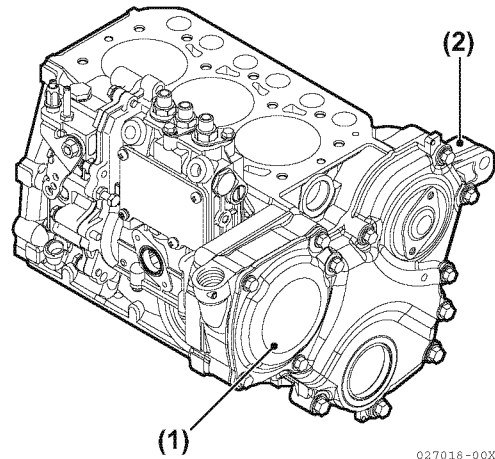

Figure 7-10
13. Remove the fuel injection pump drive gear access cover (Figure 7-10, (1)) from the gear case cover (Figure 7-10, (2)).